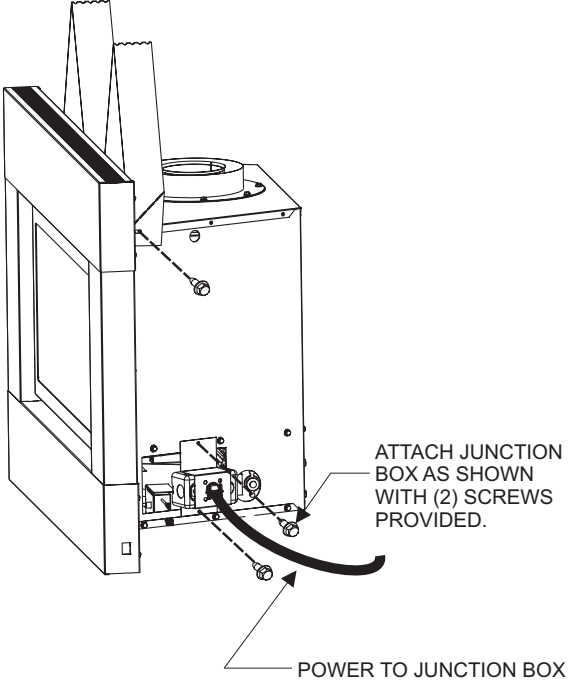

Figure 1
The junction box should be pre-wired during the initial installation of the fireplace. To complete the junction box wiring and installation, remove the junction box assembly from the right side of the fireplace as shown in Figure 1. Complete the wiring as shown in either Figure 2 for Millivolt valve models, or Figure 3 for the Intermittent pilot model fireplace.
Once the Junction Box/Receptacle assembly has been properly wired, reattach the junction box to the side of the fireplace so that the receptacle face is towards the inside of the fireplace. The junction box assembly is mounted with (2) screws to the outside of the fireplace outer wrap. **See Figure 1.**